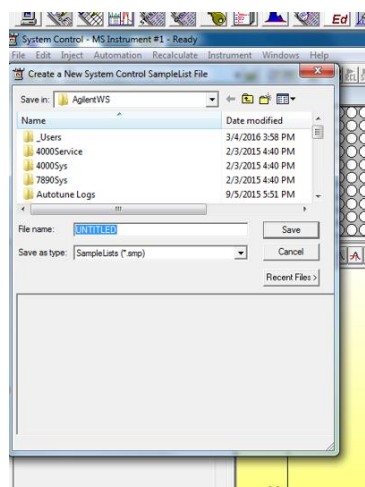

Figure 7 The icon to load your method
- c. Load your method by clicking the icon at the right side of method name (Fig. 7).